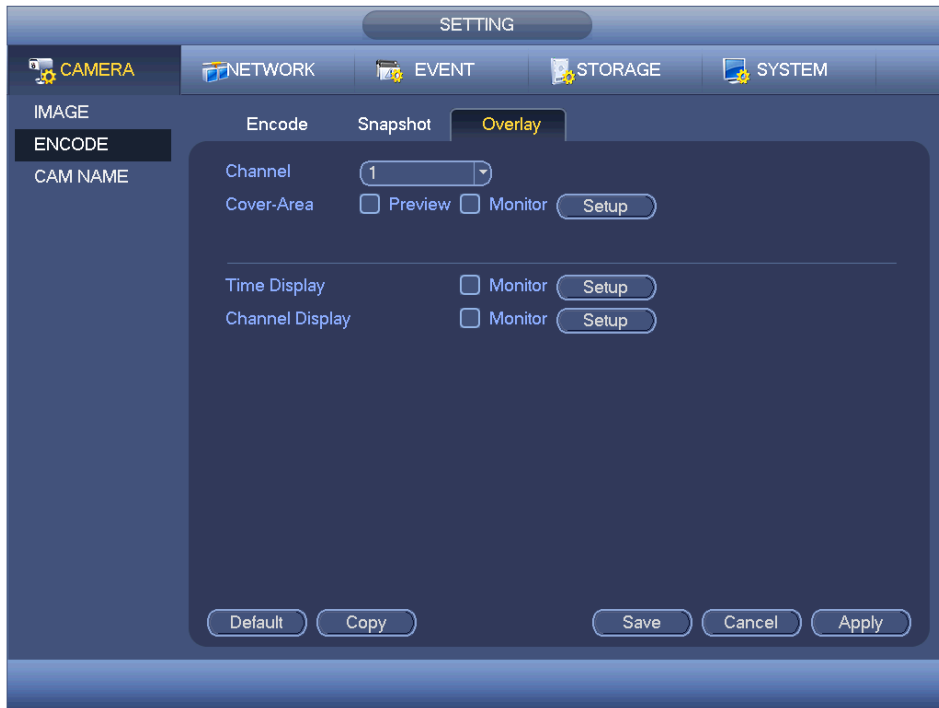
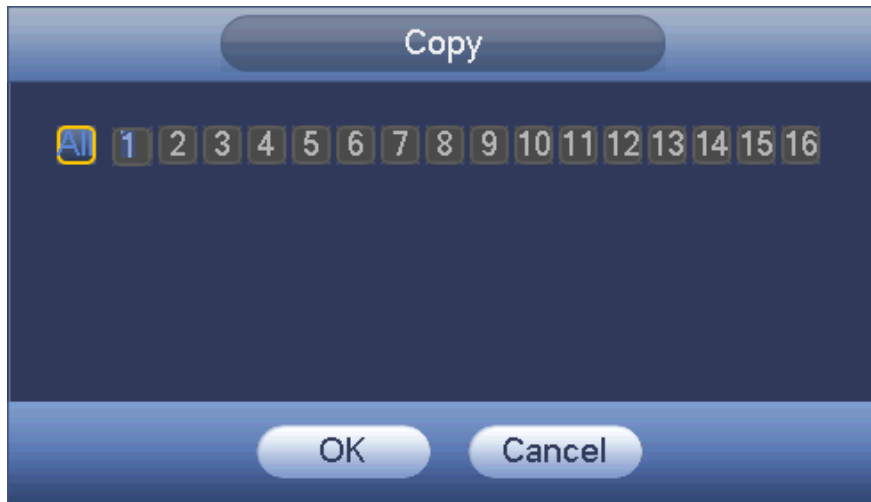

Figure 4-52
Figure 4-53
Overlay interface is shown as in Figure 4-52.
- Copy: After you complete the setup, you can click Copy button to copy current setup to other channel(s). You can see an interface is shown as in Figure 4-53. You can see current channel number is grey. Please check the number to select the channel or you can check the box ALL. Please click the OK button in Figure 4-53 and Figure 4-52 respectively to complete the setup.